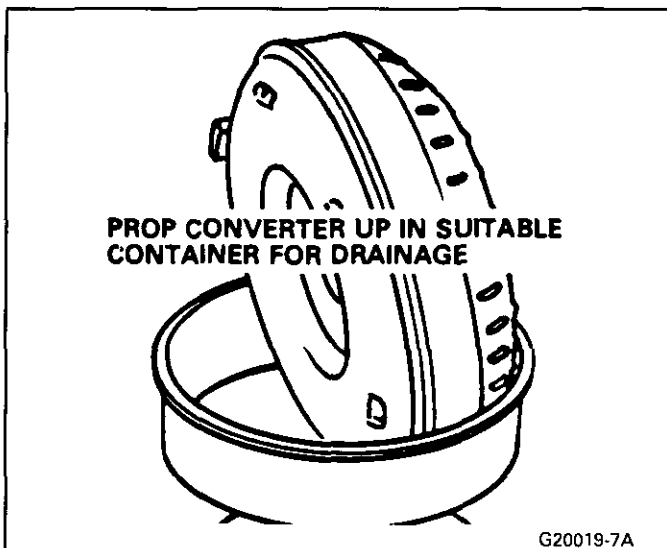

Fig. 8 Draining Torque Converter
3. Drain fluid by propping converter in a drain pan with the drilled hole at the bottom, Figure 8. Drain approximately 15 minutes.